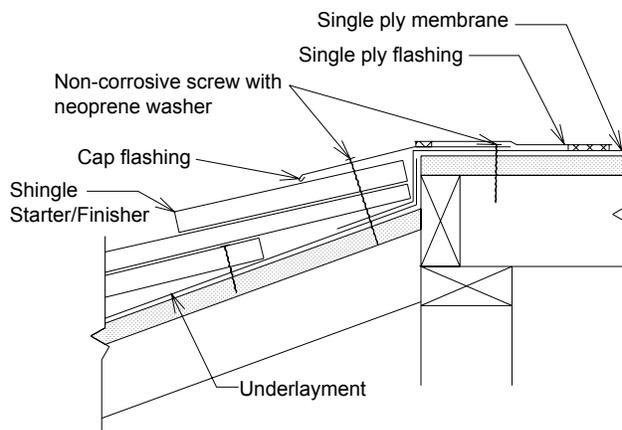

FIGURE 13. CAP FLASHING AT FLAT ROOF
9. Install cap flashing where the top row of shingles meets a flat roof. Dimensions of cap flashing will vary depending on the slope. The flashing should extend at least 3" over the tile and onto the flat roof. Field measure for exact dimensions. (Figure 13) A gravel stop or curb along the perimeter and pitching the deck to an internal drain can be used to prevent concentrated water run-off. Openings in the gravel stop or curb should be left at the top of the valleys or on the back side of the roof when using an internal drain is not practical. Shop drawings available upon request.